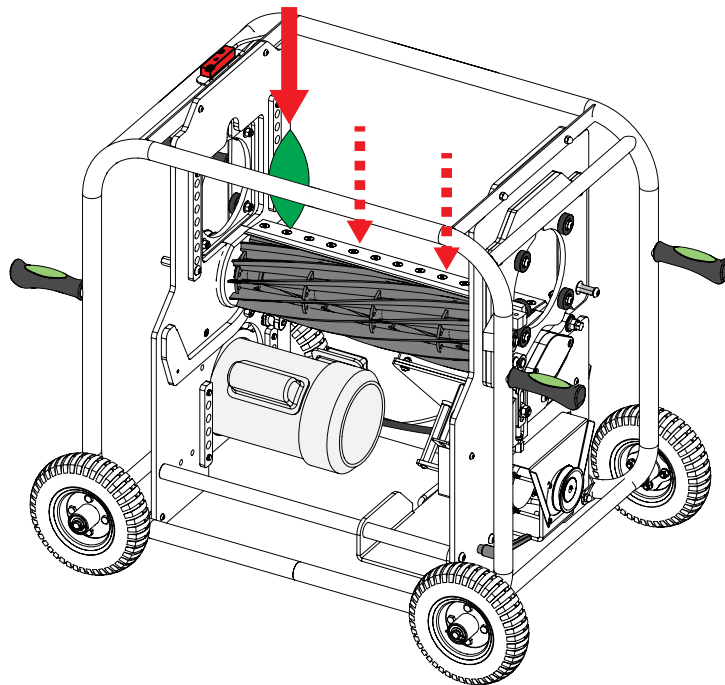

Fig. 47
- a. Insert a leaf at a right angle to the bed knife, and rotate the blades to cut the leaf (see Fig. 47).
- b. Repeat step 8.a. at multiple places along the length of bed knife (see Fig. 47).